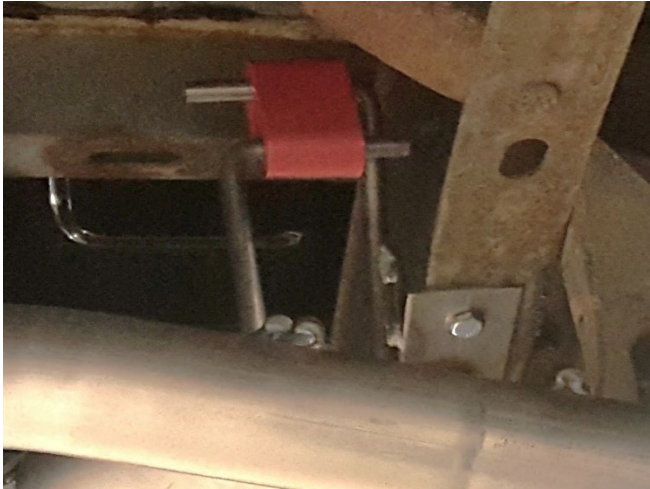

Figure.4
12. Install the supplied red exhaust isolator **(7)** on to the tail pipe hanger rod. **Fig.4**
13. Install the supplied tail pipe frame hanger 539HA **(15)** on to the red rubber isolator. **Fig.4**
14. Rotate the red isolator up so that the muffler hanger rod is at the Six o'clock position and the frame hanger rod is directly above at the Twelve o'clock position. **Fig.4**
15. Align the 2x existing bolt holes in the bottom of the frame rail and install the supplies 3/8-16 Bolts, Washers and Nuts. **Fig.4**